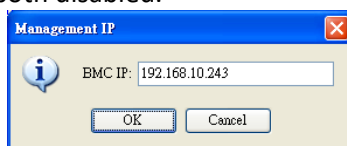

Figure 2-12 Updating the BMC IP Address
- **BMC:** Shows BMC status. If a BMC is installed, the BMC IP address will appear here. Use the Update button (Update) to update the BMC IP address (Figure 2-12). Click the **Refresh** button (Refresh) to reload the BMC IP address. If a BMC is not installed, the message “not installed” appears, and the Update and Refresh buttons are both disabled.